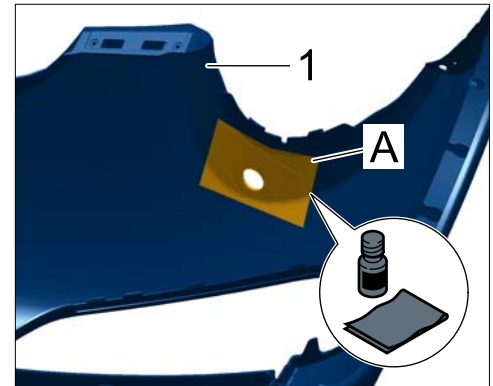

Figure 4
Clean the front apron ⇒ *Figure 4*
-1- at the left/right in the marked area ⇒ *Figure 4 -A-*.